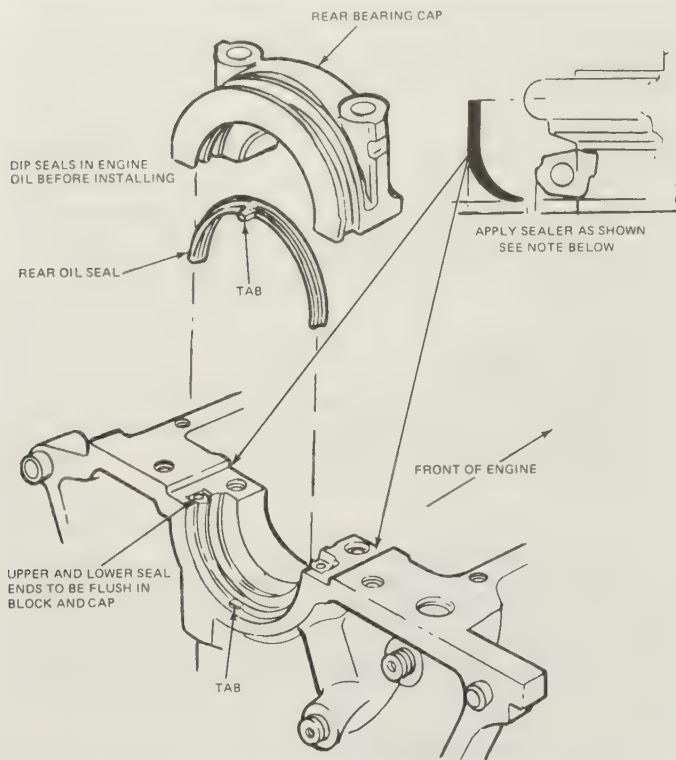

Fig. 1.19. Installation of rear main bearing oil seal (Sec. 42)
- 5 Lubricate the new crankshaft rear oil seals in engine oil and fit one in the rear crankcase groove and the other in the rear main bearing cap groove making sure the oil seal tabs face toward the rear of the engine (Fig. 1.19).